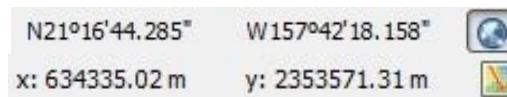

Figure 65. Status Bar Position Units
5. Click the **Toggle between Lon/Lat vs. Easting/Northing** icon to the far right of the status bar (Figure 65).